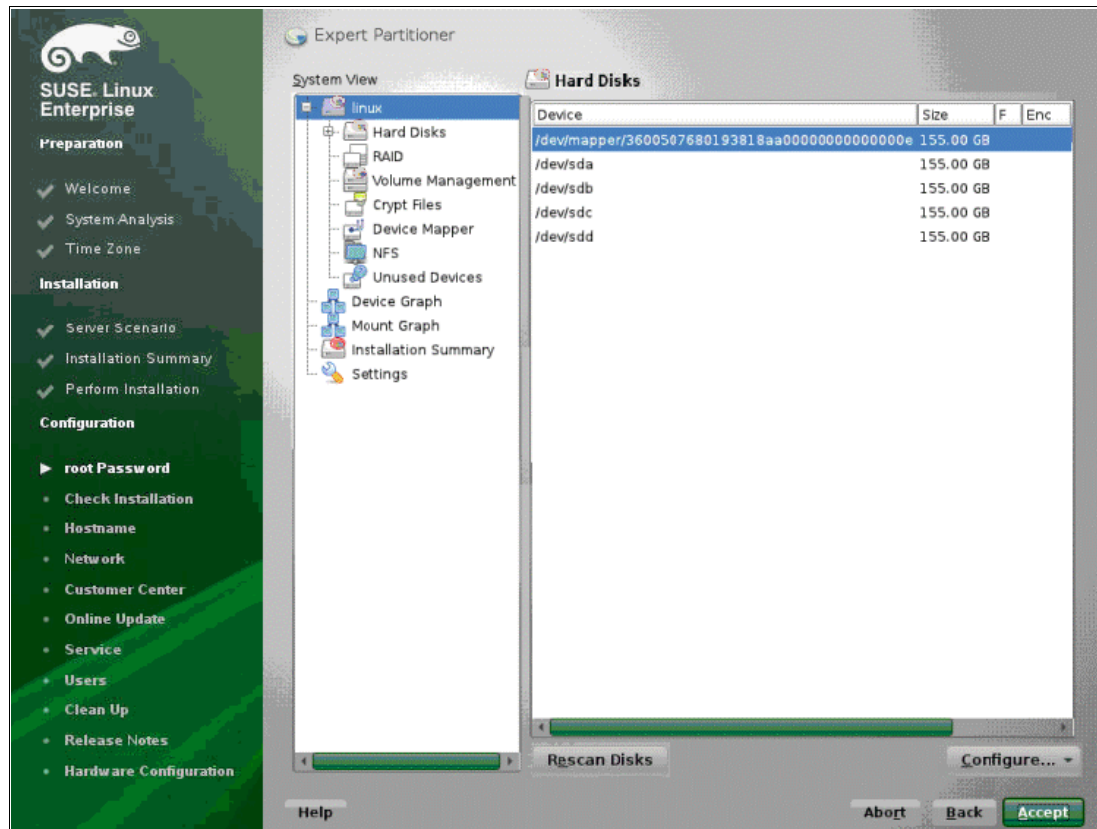

Figure 5-103 Multipathing Selected
10. You see a confirmation dialogue box for *Activation of Multipath*. On clicking **Yes**, it will rescan devices and display the updated device information, as shown in Figure 5-103.